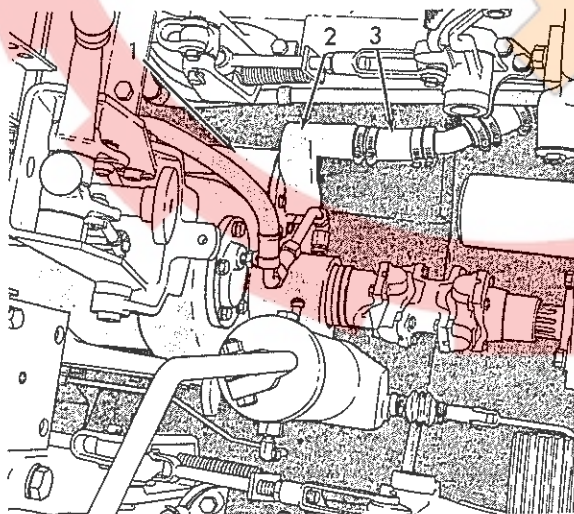

Fig. 2 Suction Line Screen Location
The suction line screen is located in left front side of transmission case, Fig. 2.
6. Disconnect steering pump suction tube, Fig. 2, from oil screen cover.